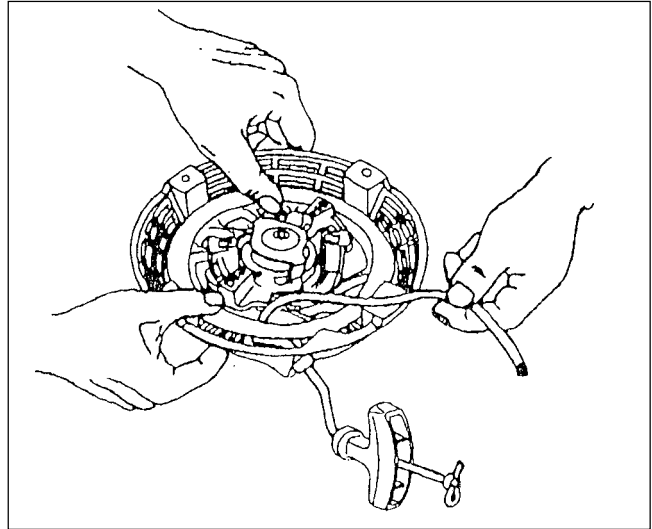

Fig. 10-10
- 3: Hold the reel with the thumbs of both hands firmly so that the rope will not be wound back. (Fig.10-10)